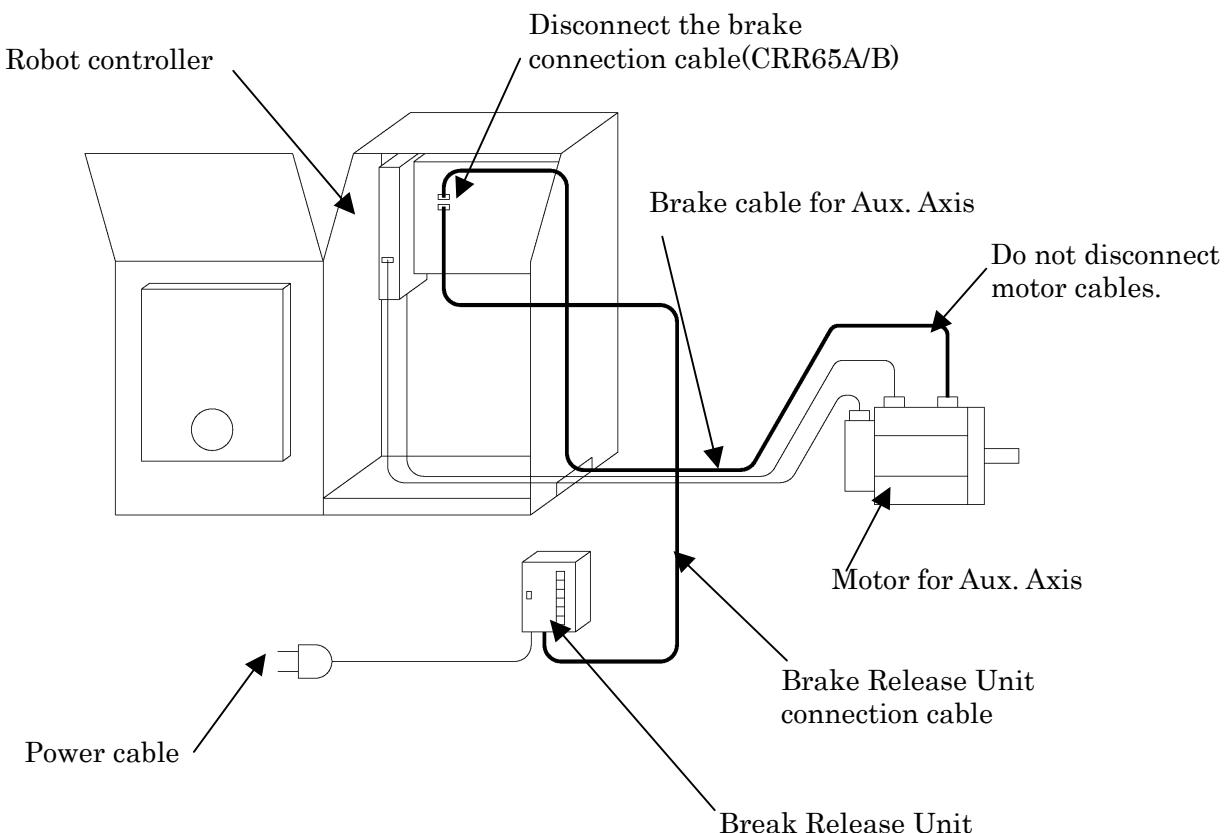

Fig.D.3.2 How to connect Brake Release Unit (In case of operating to the Aux. Axis)
- Refer to Fig.D.3.2 for the auxiliary axis.